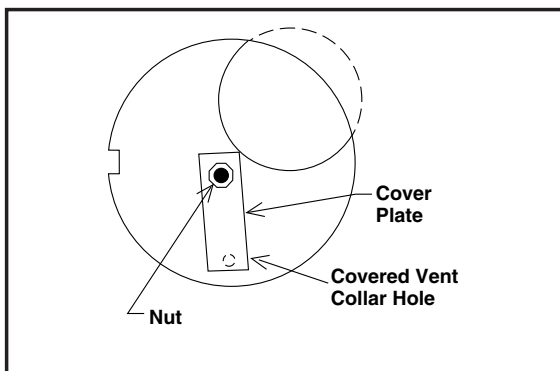

Figure 10. *TA Vent Collar Detail
2. Remove the nut and restrictor plate from the vent collar assembly and discard the restrictor plate. Select the appropriate dilution cover plate as noted with vent kit #903196. Fit the clearance hole in the cover plate over the weld stud. The cover plate must cover the hole(s) on the vent collar assembly. Tighten the nut securely while holding the cover plate in position. (See Figure 10.)